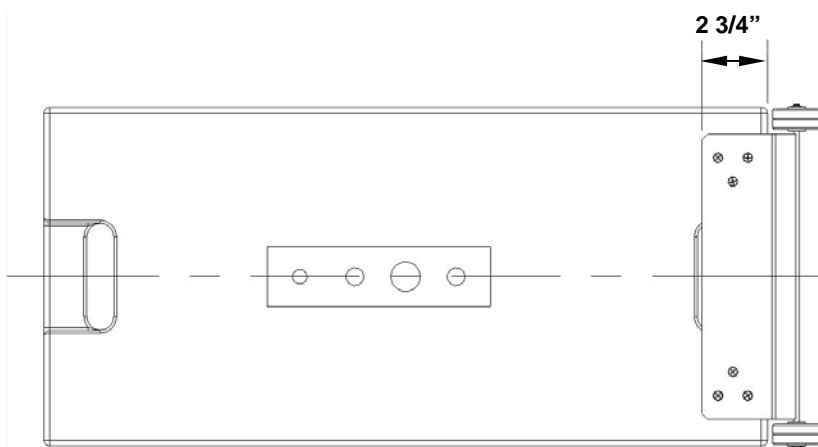

Figure 3
1. Position the bracket edge $2 \frac{3}{4}$ " from the edge of the mat and center it as shown in Figure 3.